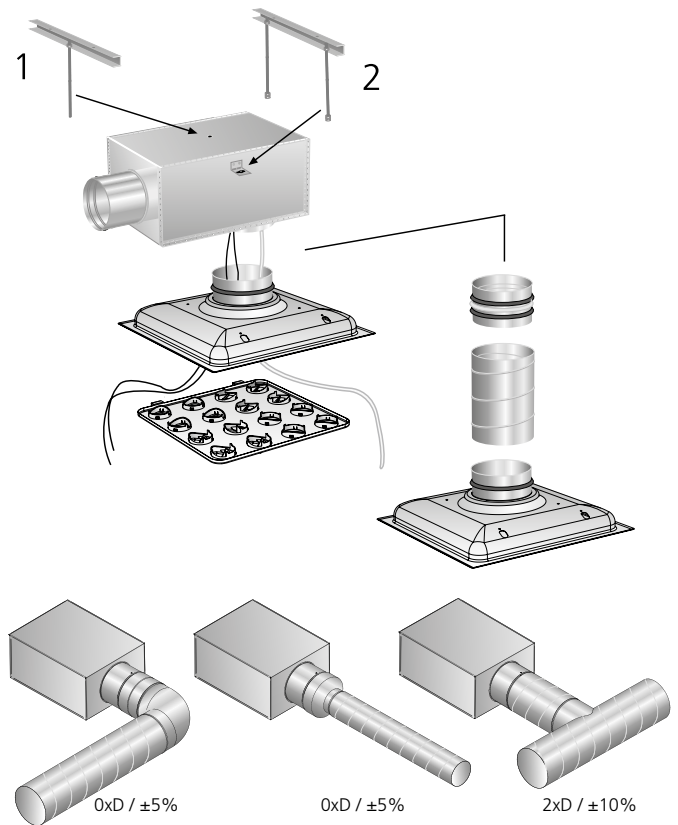

Figure 1. Installation
Secure the commissioning box to the building structure by means of pop-nuts (1) or mounting brackets (2). See Figure 1.
Measurement accuracy and requirement on straight duct before the commissioning box, see Figure 1. The requirement of straight duct depends on the type of disturbance before the commissioning box. Figure 1 shows a bend, a dimensional change and a T-piece. Other types of disturbances require at least 2xD straight (D = connection dimension) for measurement accuracy of $\pm 10\%$ of the flow.